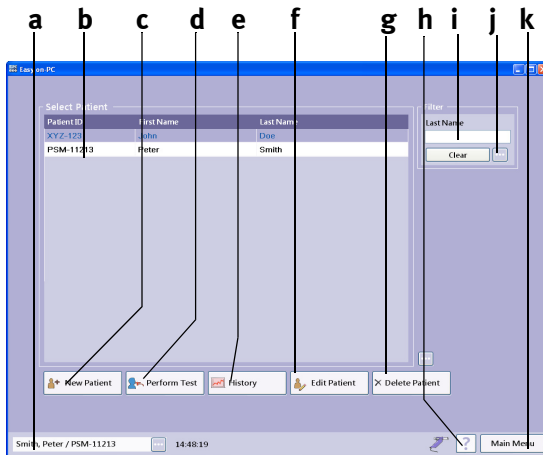

Fig. 3-1 Patient list
- To search for a specific patient, you enter the first letter(s) of the patient's last name at **i** (Fig. 3-1).